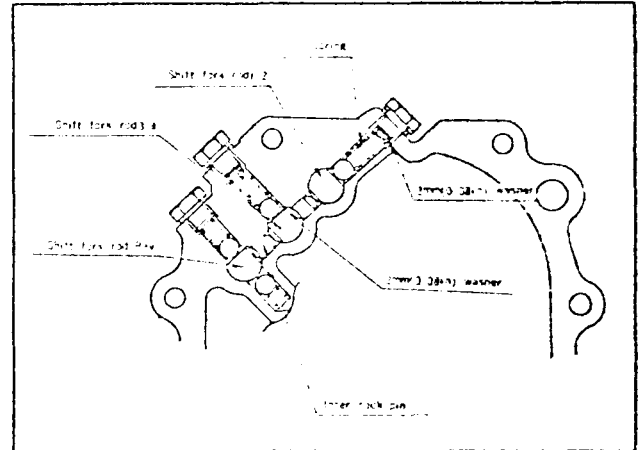

Fig. 7-3 Inserting Washer
- (1) Install the shift fork on the shift fork rod and mount the idle gear making sure not to leave the interlock pin in the transmission case. Ensure against loosening of the setscrew of the shift fork by wiping any trace of oil off the threads and apply some locking agent there. {Tightening torque: 100 ~ 140 kg-cm (7 ~ 10 ft-lb)} Check for any looseness of the bearing stopper plate, etc.
- (2) To prevent gear slip-out, insert a 2 mm (0.08 in) thick washer at each shift lock spring, thereby increasing the spring constant. (See Fig. 7-3)
- (3) Install the modified gears on the main shaft. Check to see that gear bushing is well seated to the main shaft. Replace the lock wire with new one.
- (4) Mount the main drive gear on the main shaft, taking care not to forget to attach the needle roller bearing. Install the drive gear together with the counter shaft gear into the transmission case, and check to see that each gear turns properly.
- (5) Before tightening the transmission case, apply some sealing agent on its joint surfaces.
- (6) The boot should be removed to ensure against gear slip-out.
- (7) To wear in the transmission gears the maximum car speed should be held to 60 km/h (38 mile/h) for the first, 100 km (63 mile) and 100 km/h (63 mile/h) for the next 100 km (63 mile).